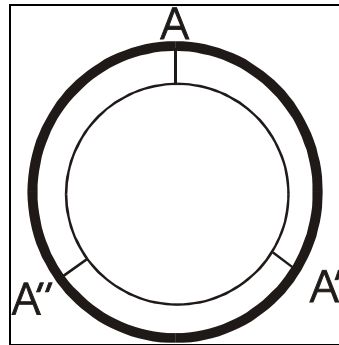
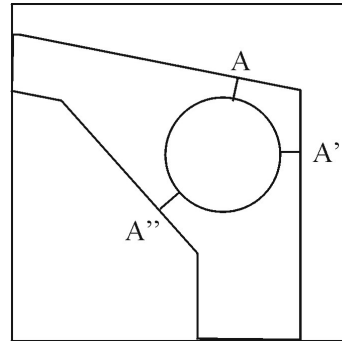

Figure 11: Positioning the cursor for the knee coil.
Figure 12: Positioning the cursor for the foot attachment.
6. Position the cursor for the knee coil at the center of the phantom (see *Figure 11*). Position the cursor for the foot attachment at A=A'=A” (see *Figure 12*). Use cursor copy (**CTRL + C**) and paste (**CTRL + V**) to easily set the cursor to each image.